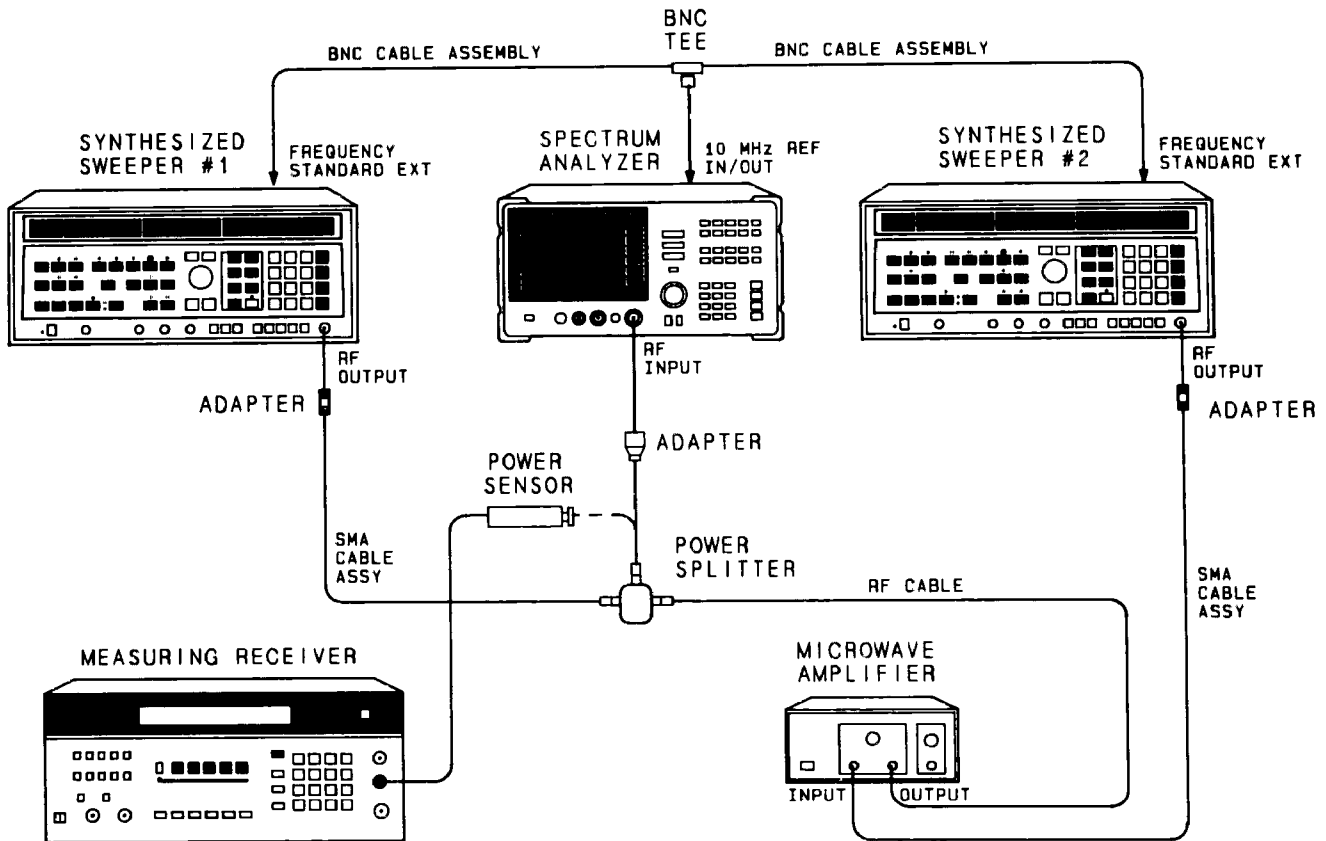

Figure 3-20. Gain Compression Test Setup
2. Connect the equipment as shown in Figure 3-20, with the output of the power splitter connected to the HP 8485A Power Sensor.